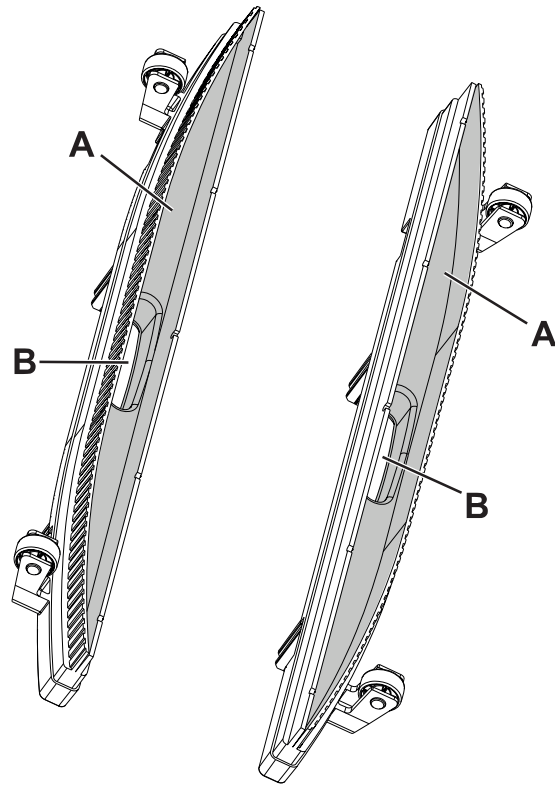

Figure 9
2. Remove the tanks container (13) from the machine body using the handle (15).
3. Lift the machine body to access the lower part of the cleaning deck (16).
4. Remove the squeegee bars (20) by pulling outwards.
5. Clean and wash the squeegee bars. In particular, clean the compartments (A, Fig. 9) and the vacuum hole (B). Check the blades for integrity, cuts and tears; if necessary replace the squeegee bars.